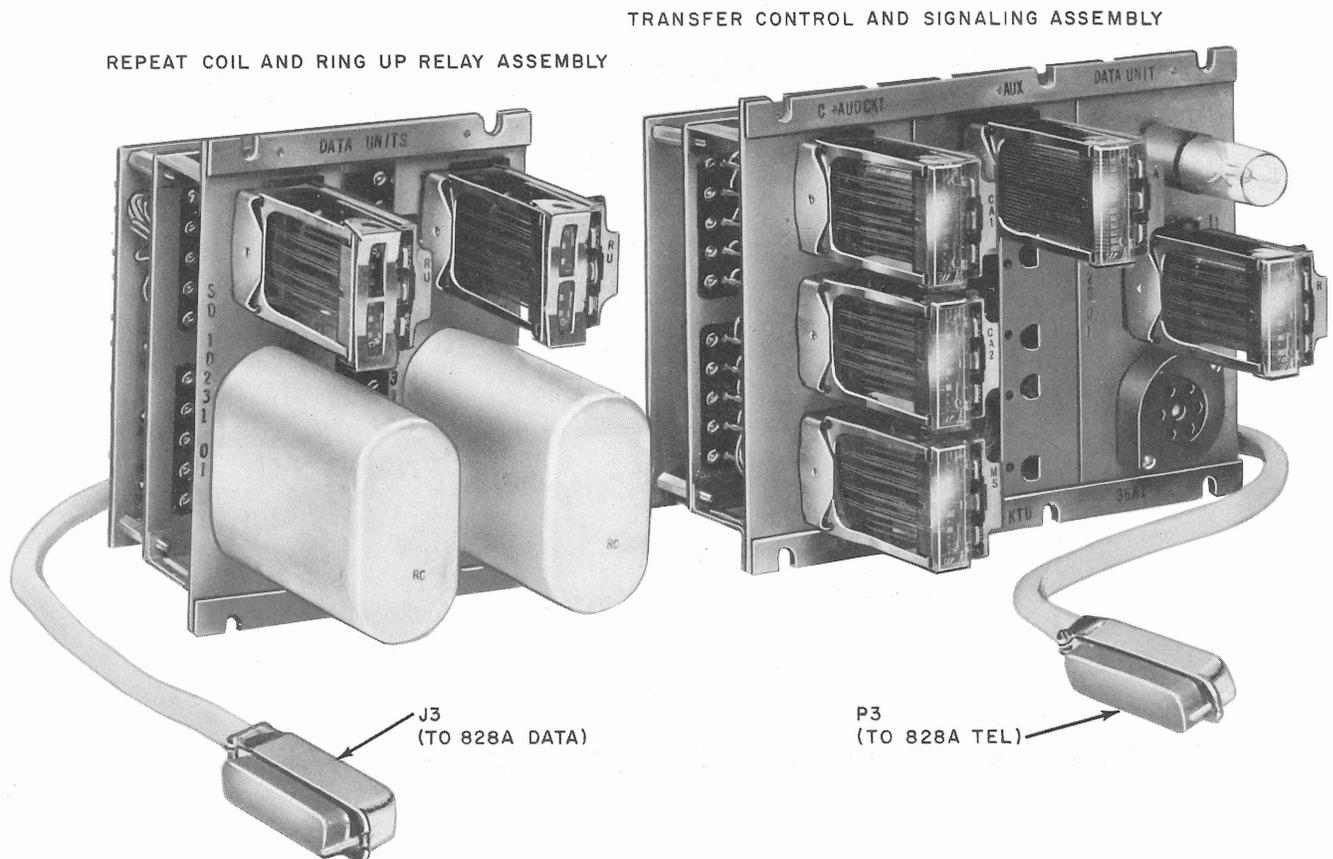
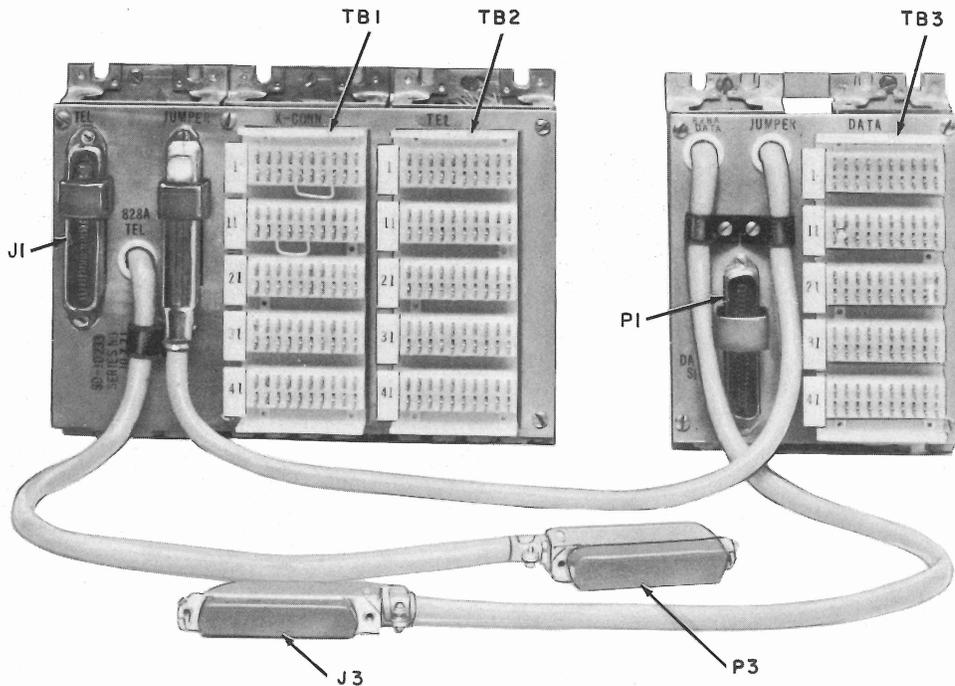

Fig. 1—Front View of DAS 828C-L1
Fig. 2—Rear View of DAS 828C-L1 Showing Connector Cords and Terminal Blocks
2.02 The DAS 828C-L1 shown in Fig. 1 and 2 consists of two units: the repeat coil and ring-up relay assembly shown on the left of Fig. 1, and the transfer, control, and signaling assembly shown on the right of Fig. 2. These units are assembled on hanger bars, prewired, and tested. The two units are interconnected using a 25-pair cable supplied with DAS 828C.
2.03 Connections from the DAS 828C to other units are made as follows (Fig. 2):
5. 828A Loop-back	(a) For 828A-L1/2 or -L1A/2 (PL data/alternate voice), loop-back is controlled by keyset supplied with 828A. No installer wiring required. (b) 828A-L1 or -L1A (PL data only), specify remote loop-back wiring in the 828A per Section 598-080-200, Fig. 2, if it is desired to operate the LB circuit over the PL simplex pair. (c) For 828A-L1 or -L1A (PL data only), specify wiring per Section 598-080-201, Fig. 2, if local (key telephone set) operation of the LB circuit is desired. Also, order resistor per Fig. 2.